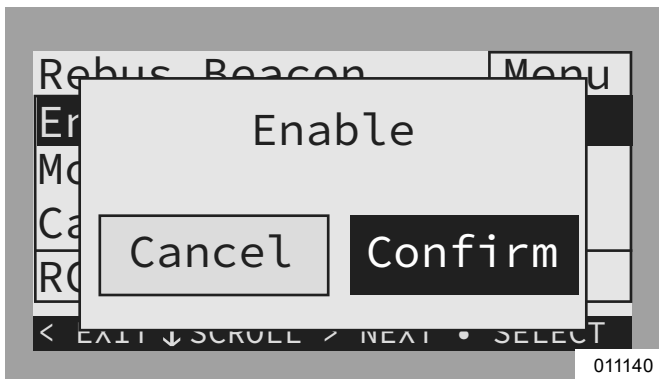

Figure 6-20. Enabling Beacon (2 of 2)
3. See Figure 6-20. Arrow sideways to Confirm and press the center button.